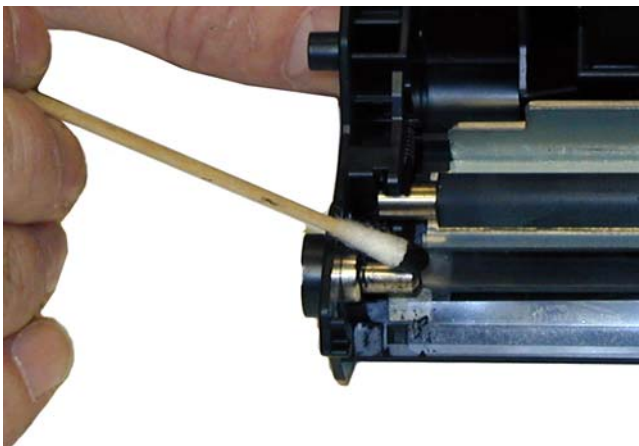

Figure 14
10) Place another small amount of conductive grease on to the metal drum axle. See **Figures 14**